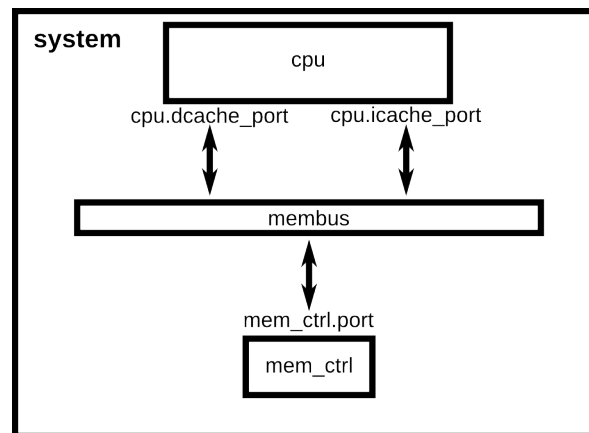

Figure 2: System to be simulated.
7. Now we will begin to construct our simple system. In this exercise, we will be creating the system shown in Figure 2: